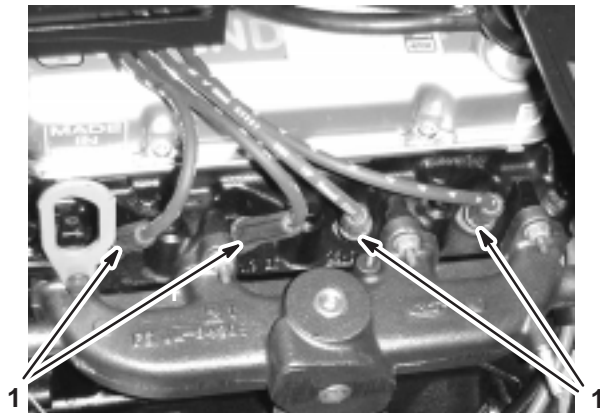

Figure 50
3. Grasp the molded wire boot of a spark plug wire, twist it, and pull it from the spark plug; repeat for the other spark plug wires (Fig. 50).
3. Push the wires onto the spark plugs (Fig. 50).